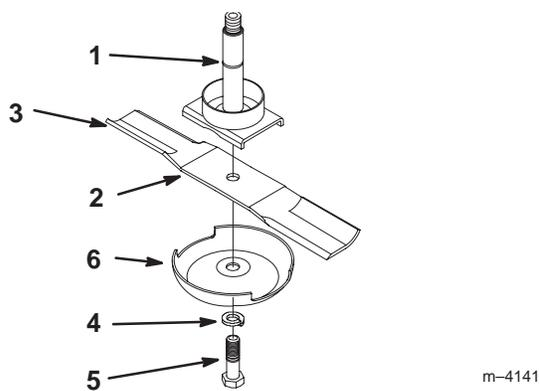
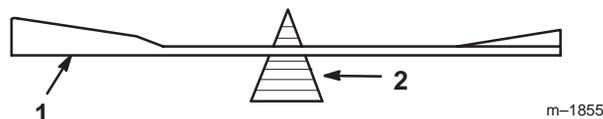

Figure 10
Figure 12
Hold the blade end using a rag or thickly-padded glove. Remove the blade bolt, lock washer, anti-scalp cup and blade from the spindle shaft (Fig. 10).
2. Check the balance of the blade by putting it on a blade balancer (Fig. 12). If the blade stays in a horizontal position, the blade is balanced and can be used. If the blade is not balanced, file some metal off the end of the sail area only (Fig. 10). Repeat this procedure until the blade is balanced.
1. Install the blade onto the spindle shaft (Fig. 10).
2. Install the lock washer and blade bolt (Fig. 10). Torque the blade bolt to 85–110 ft-lb (115–140 N•m).